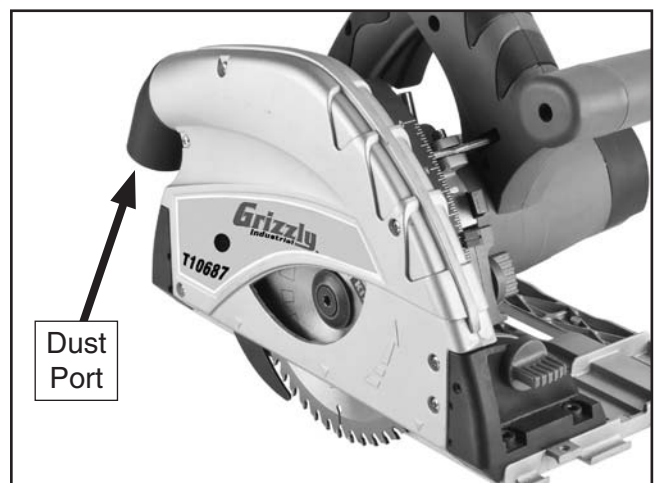

Figure 8. Dust port location.
1. Fit the 1½" dust hose over the dust port (see **Figure 8**), and secure in place with a hose clamp.